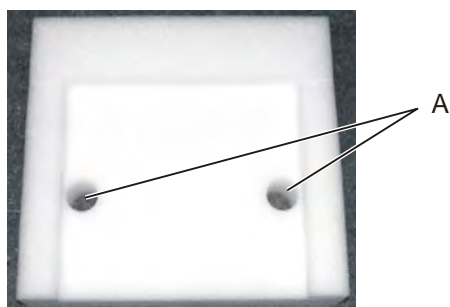

Figure 26: Shock absorbing buffers
The base pallet has two shock absorbing buffers (see Figure 26). The laser device feet are placed in the locating holes (A) so that the laser device is secured in position when the rigid packaging is closed.